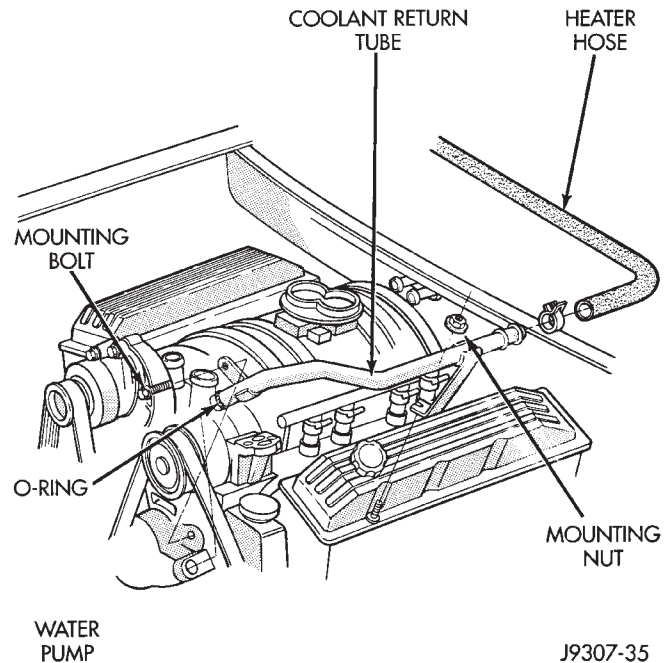

Fig. 9 Coolant Return Tube—5.2/5.9L V-8 Engines
5.2/5.9L ENGINES: One of the heater hoses is connected to the water pump with a metal coolant return tube (Fig. 9). A rubber o-ring forms a seal at the water pump end of the tube.